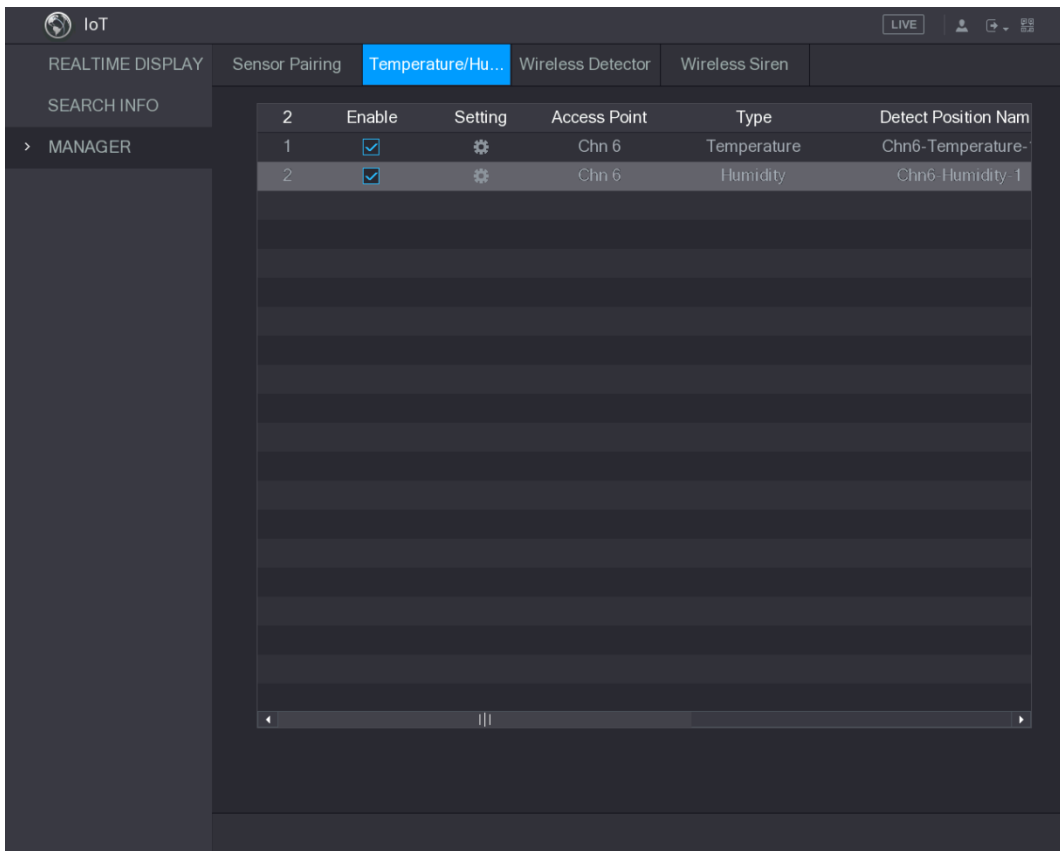

Figure 5-184
Step 2 Select the **Enable** check boxes to enable IoT function. See Figure 5-184.